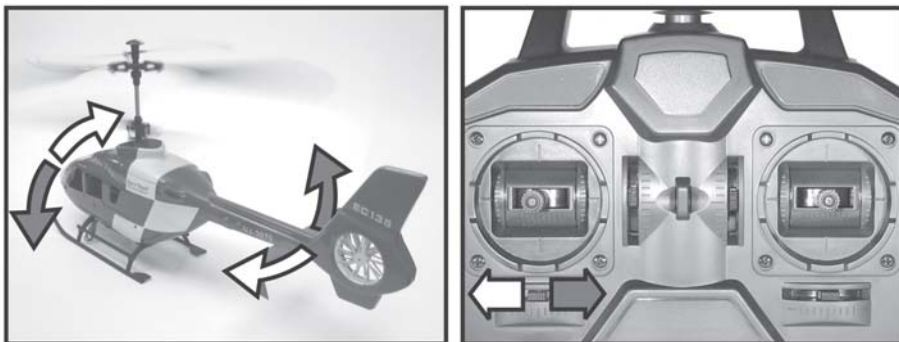

Figure 15
If the helicopter wants to turn to the right with the tip of the fuselage (see figure 15), reduce the speed and slide the trim slider for the tail function (see figure 1, item 10) gradually to the left.